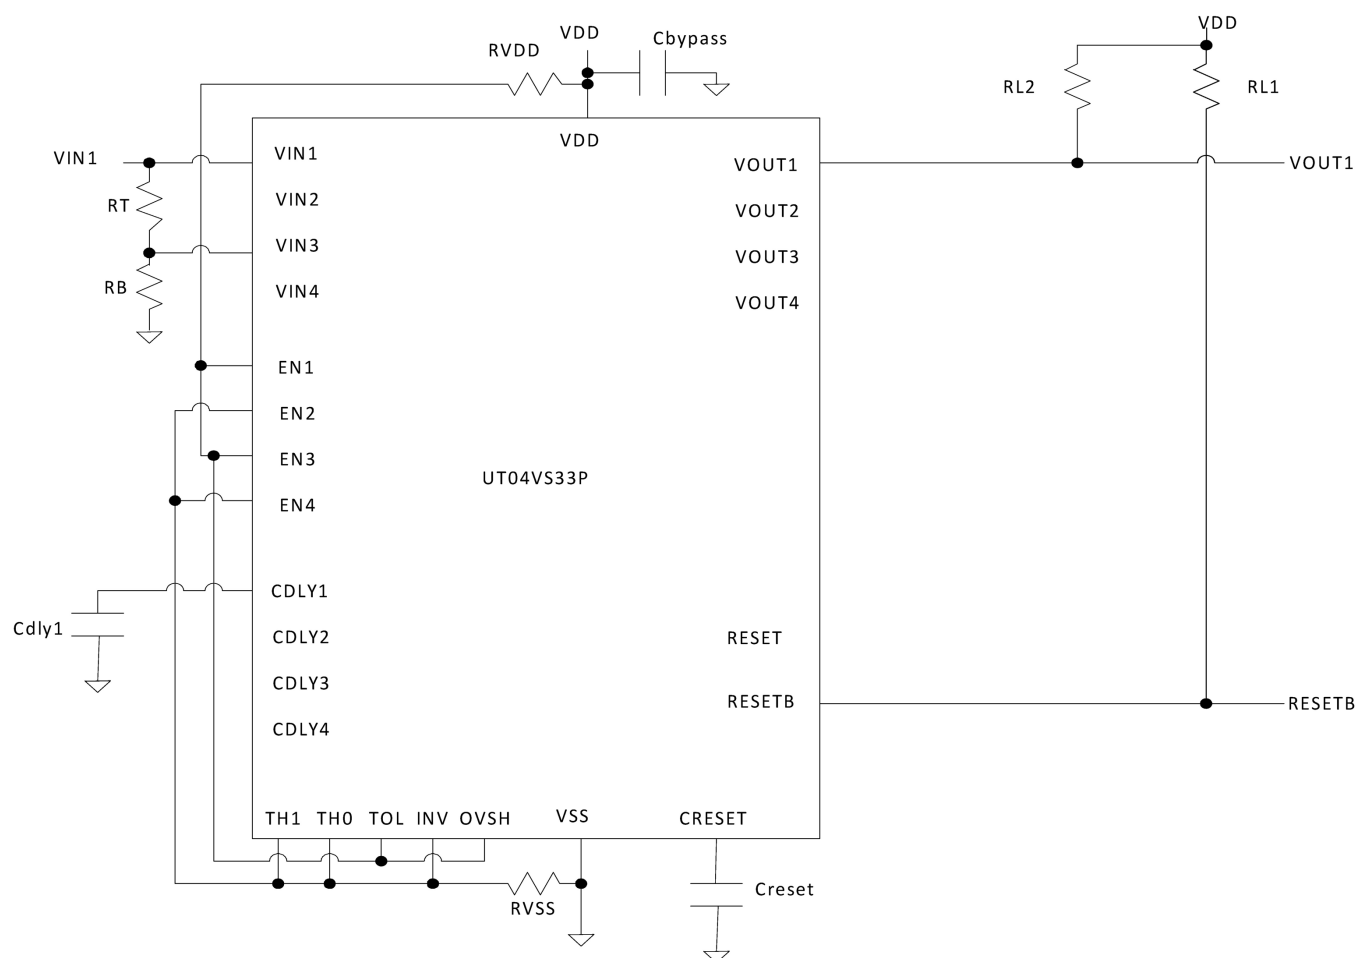
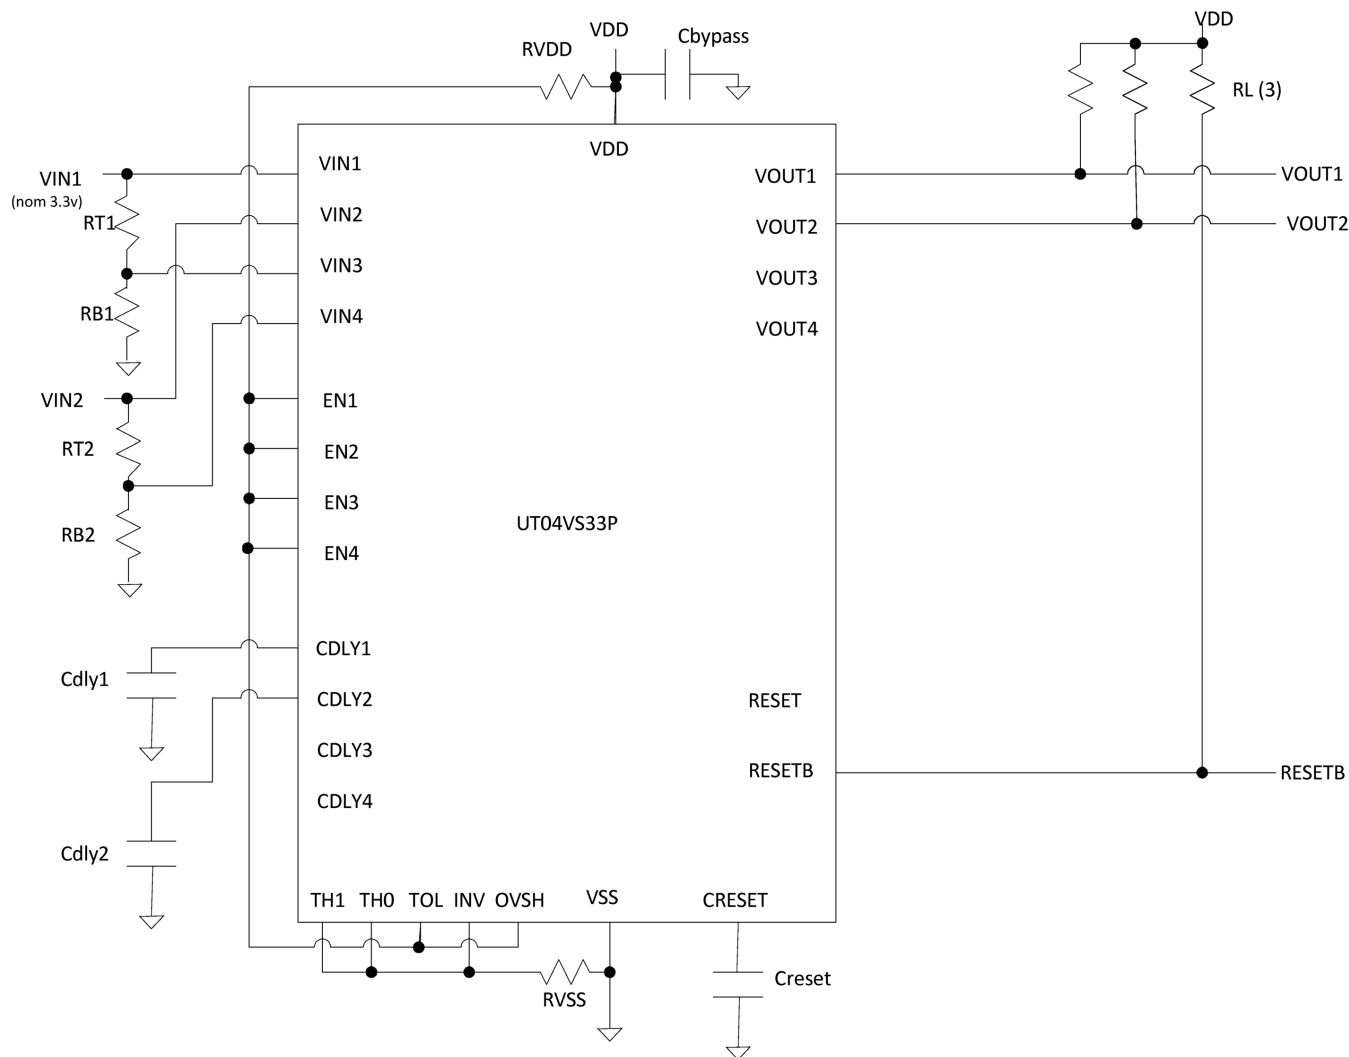

Figure 8. Extended use application showing OVSH connection for channel 1
Figure 9. Extended use application showing OVSH connection for channel 1 and 2
- 3) For OVSH=1, V_{TH_OVRV} is the threshold which is set with external resistors to either the V_{IN3} or V_{IN4} input to monitor an over-voltage condition in conjunction with the under-voltage monitor by VIN1 or VIN2, respectively, as shown in Figure 8 and Figure 9.
Shown in Figure 8 is an extended application showing the use of Cdly and Creset capacitors. OVSH is set to logic 1 to highlight the under- and over-voltage detection mode connections. Thus, a resistor voltage-divider on channel 3 is connected from the channel 1 source.
Shown in Figure 9 is an extended application showing the use of Cdly and Creset capacitors. OVSH is set to logic 1 to highlight the under- and over-detection mode connections on channel 1 and channel 2. Thus, an r-divider on channel 3 and 4 are connected from the channel 1 and 2 source, respectively